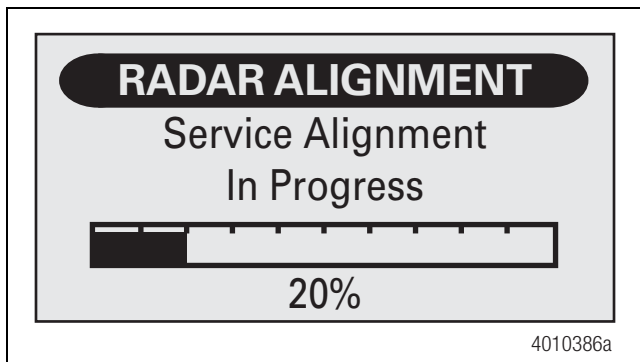

Figure 11
2. Drive the vehicle on a straight road above 30 mph (48 kph). The road should have telephone poles, signposts and other non-moving objects along the roadside. There must also be other traffic on the road, either on-coming or lead vehicles at distances greater than 150 ft (45.72 m). Stopping the vehicle while traveling in traffic is acceptable but will increase the time needed to complete the alignment procedure. While in radar alignment mode, the OnGuard™ display will show the progress of the alignment process as shown in Figure 11.